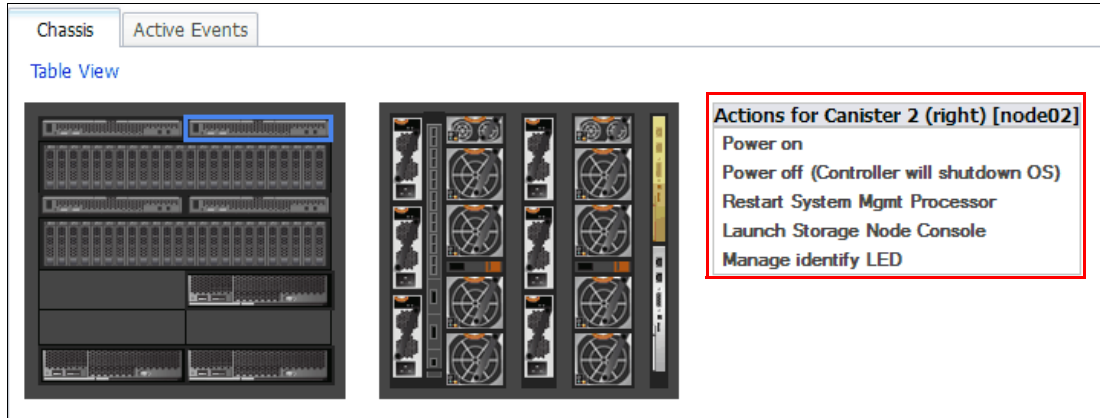

Figure 13-30 CMM Chassis Map - action pop-up window
5. Right-click a component to access an action pop-up window, as shown in Figure 13-30.